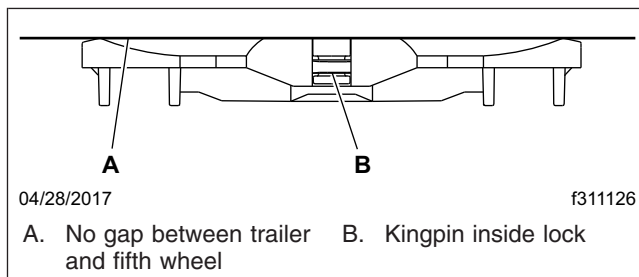

Fig. 18.6, Coupling Inspection
8. Perform a coupling inspection, checking that there is no gap between the bottom of the trailer and the fifth wheel, and that the kingpin is securely locked. See Fig. 18.6
10. Apply the tractor parking brake, then perform a physical check for positive kingpin lockup, and that there is no gap between the trailer and the fifth wheel. See Fig. 18.6.